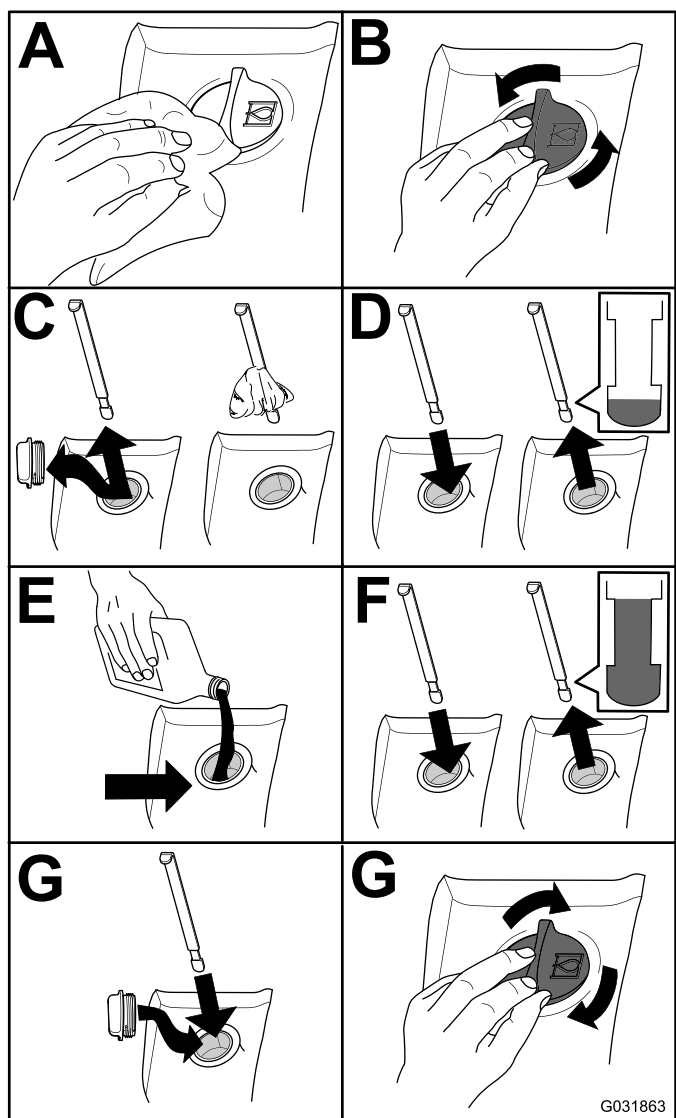

Figure 115
2. Check the hydraulic-fluid level (Figure 115).